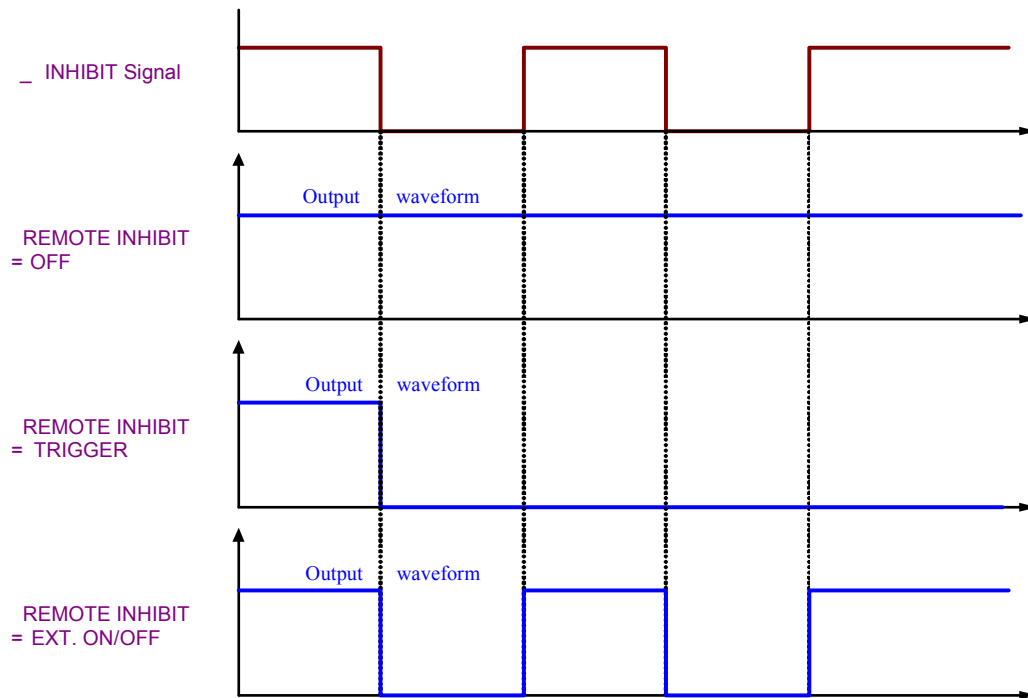

Figure A-1 Detail Actions of PIN9
- (1) PIN 1: 12V auxiliary power; see section 3.3.1.3.
- (2) PIN 2: Ground of 12V auxiliary power; see section 3.3.1.3.
- (3) PIN 3: Voltage programming; see section 3.3.1.3.
- (4) PIN 4: Current programming; see section 3.3.1.3.
- (5) PIN 5: Voltage measurement; see section 3.3.1.3.
- (6) PIN 6: Current measurement; see section 3.3.1.3.
- (7) PIN 7: SAFETY INT.LOCK, see section 3.3.5.5.
- (8) PIN 8: External trigger signal of Program mode; see section 4.1.2.2.
- (9) PIN 9: When the voltage level of this pin turns to LOW, it inhibits the output of the DC Power Supply. When REMOTE INHIBIT is set to OFF, the pin is invalid and when REMOTE INHIBIT is set to TRIGGER, the low level triggers it, it equals pressing the “” key to set . When REMOTE INHIBIT is set to EXT. ON/OFF and the voltage level turns to LOW, it equals pressing the “” key to set . However, when the voltage level of this pin turns to HIGH the power supply returns to normal output. Figure A-1 shows the detail actions.
- (10) PIN 10: When the DC power supply output is ON and the voltage is over VDC_R, the pin10 DC_ON of SYSTEM STATUS on the device rear panel will turn to HIGH. When the DC power supply output voltage is lower than VDC_F setting, the pin10 DC_ON of SYSTEM STATUS on the device rear panel will turn to LOW.
- (11) PIN 11: When protection occurs as described in section 3.3.5, this will turn to LOW.
- (12) PIN 12: Bit 0 of TTL signal output; see section 3.3.2.5 for detail setting.
- (13) PIN 13: Bit 1 of TTL signal output; see section 3.3.2.5 for detail setting.
- (14) PIN 14: Bit 2 of TTL signal output; see section 3.3.2.5 for detail setting.
- (15) PIN 15: Bit 3 of TTL signal output; see section 3.3.2.5 for detail setting.
- (16) PIN 16: Bit 4 of TTL signal output; see section 3.3.2.5 for detail setting.
- (17) PIN 17: Bit 5 of TTL signal output; see section 3.3.2.5 for detail setting.
- (18) PIN 18: Bit 6 of TTL signal output; see section 3.3.2.5 for detail setting.
- (19) PIN 19: Bit 7 of TTL signal output; see section 3.3.2.5 for detail setting.